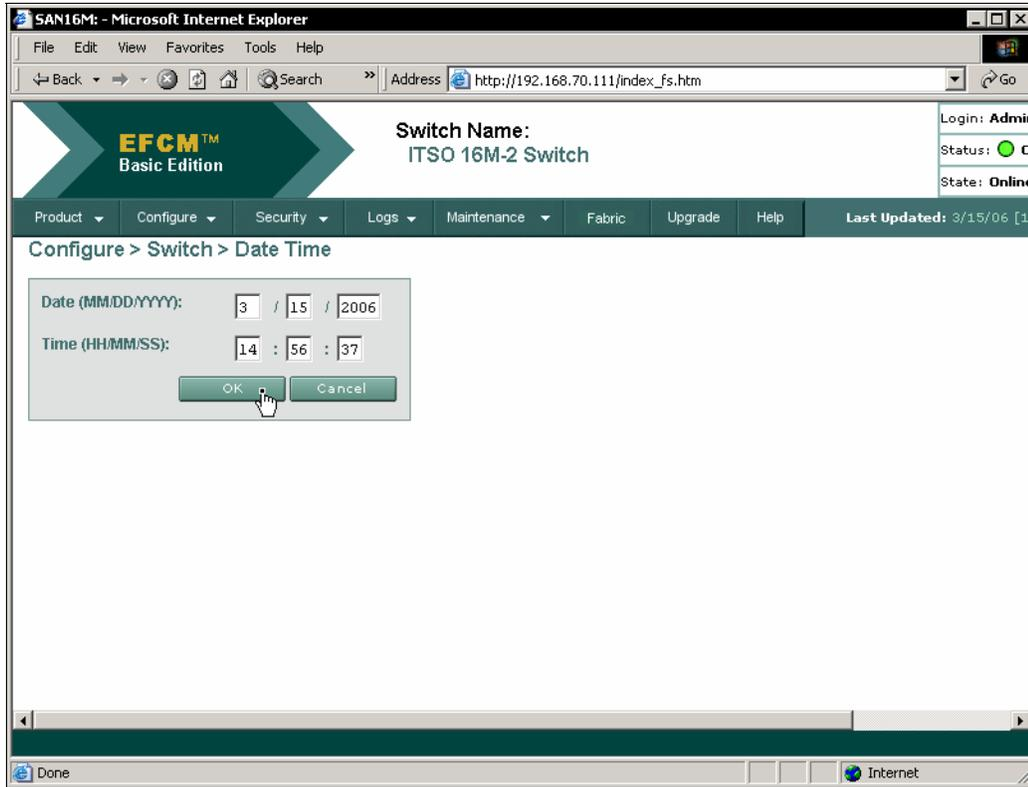

Figure 31 EFCM Basic - date and time
3. Click **Configure**, and select **Switch**, then **Date & Time**, to change these settings. The Date Time view displays, as in Figure 31 on page 27. Adjust the date and time, and then click **OK**.